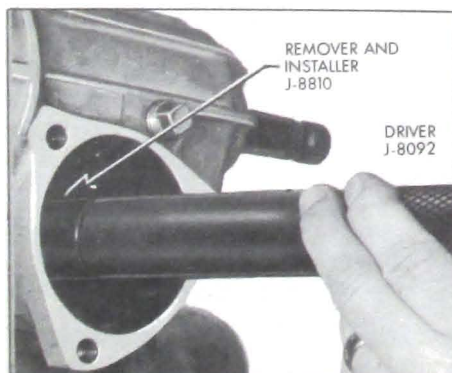

Figure 8-15—Installing Pitman Shaft Bushing
5. Inspect teeth of ball nut and pitman shaft for pitting or scoring which would require replacement of nut or pitman shaft. Inspect pitman shaft bushing for excessive wear or scoring. If necessary, remove pitman shaft bushing and install a new bushing with Remover and Replacer J-8810 and Drive Handle J-8092. See Figure 8-15.